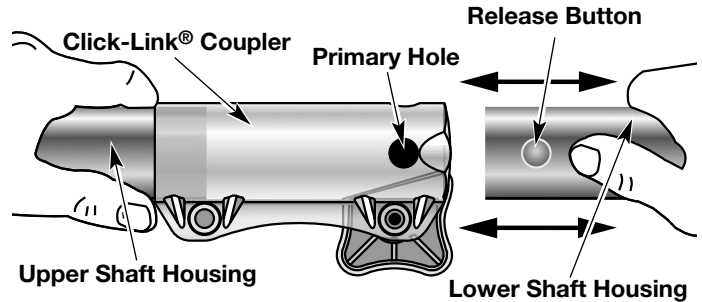

Fig. 12
3. While firmly holding the upper shaft housing, pull the cutting attachment or add-on straight out of the Click-Link® coupler (Fig. 12).
2. While firmly holding the add-on, push it straight into the Click-Link® coupler (Fig. 12).
For edging when using the line head cutting attachment with Click-Link® models, lock the release button of the cutting attachment into the 90° edging hole or the 180° edging hole (Fig. 12).